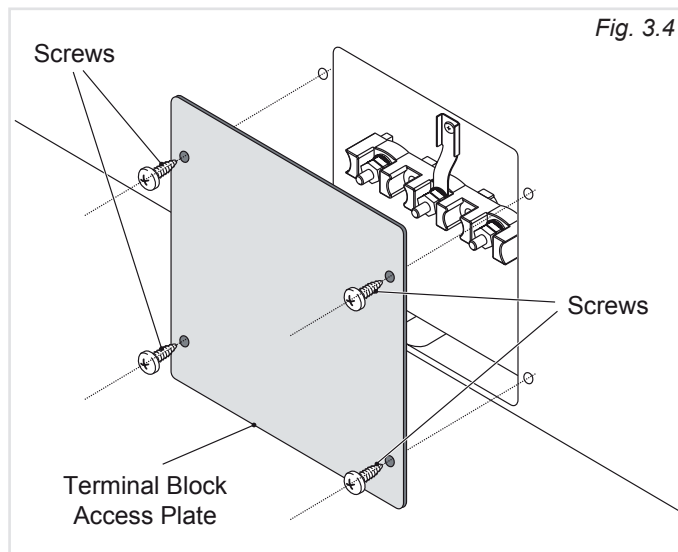

Fig. 3.4
1. Remove the **Terminal Block Access Plate** on the back of the range by unscrewing the 4 fixing **Screws** (Figure 3.4).
6. Reassemble the **Terminal Block Access Plate** on the back of the range by screwing the 4 fixing **Screws** (Figure 3.4).
8. Reassemble the **Terminal Block Access Plate** on the back of the range by screwing the 4 fixing **Screws** (Figure 3.4).